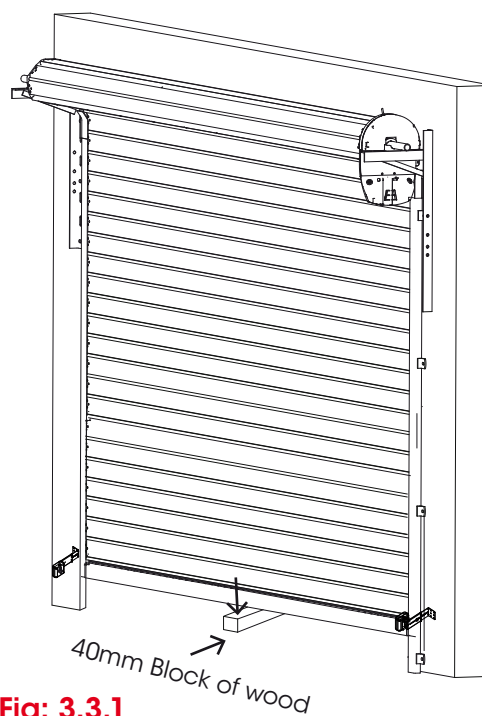

Fig: 3.3.1
- Place a piece of timber approximately 40mm high on the floor directly under the shutter (**Fig. 3.3.1**).